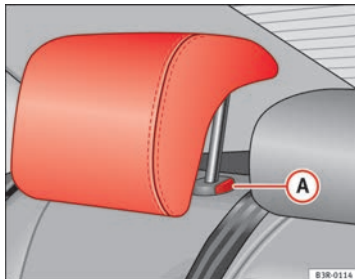

Fig. 110 Outer rear seats: Head restraints
- Press button **(A)** ⇒ Fig. 110 and lower the head restraint.
- Press button **(A)** ⇒ Fig. 110 and pull out the head restraint.